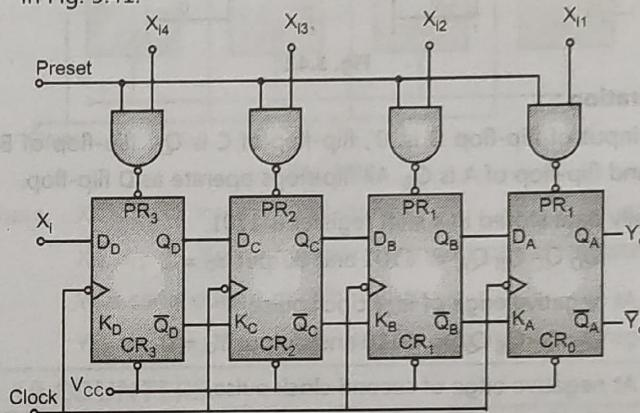

Fig. 3.41
- In asynchronous loading, the preset inputs are used to load the data simultaneously. The logic diagram of four bit parallel in serial out shift register with asynchronous loading is shown in Fig. 3.41.